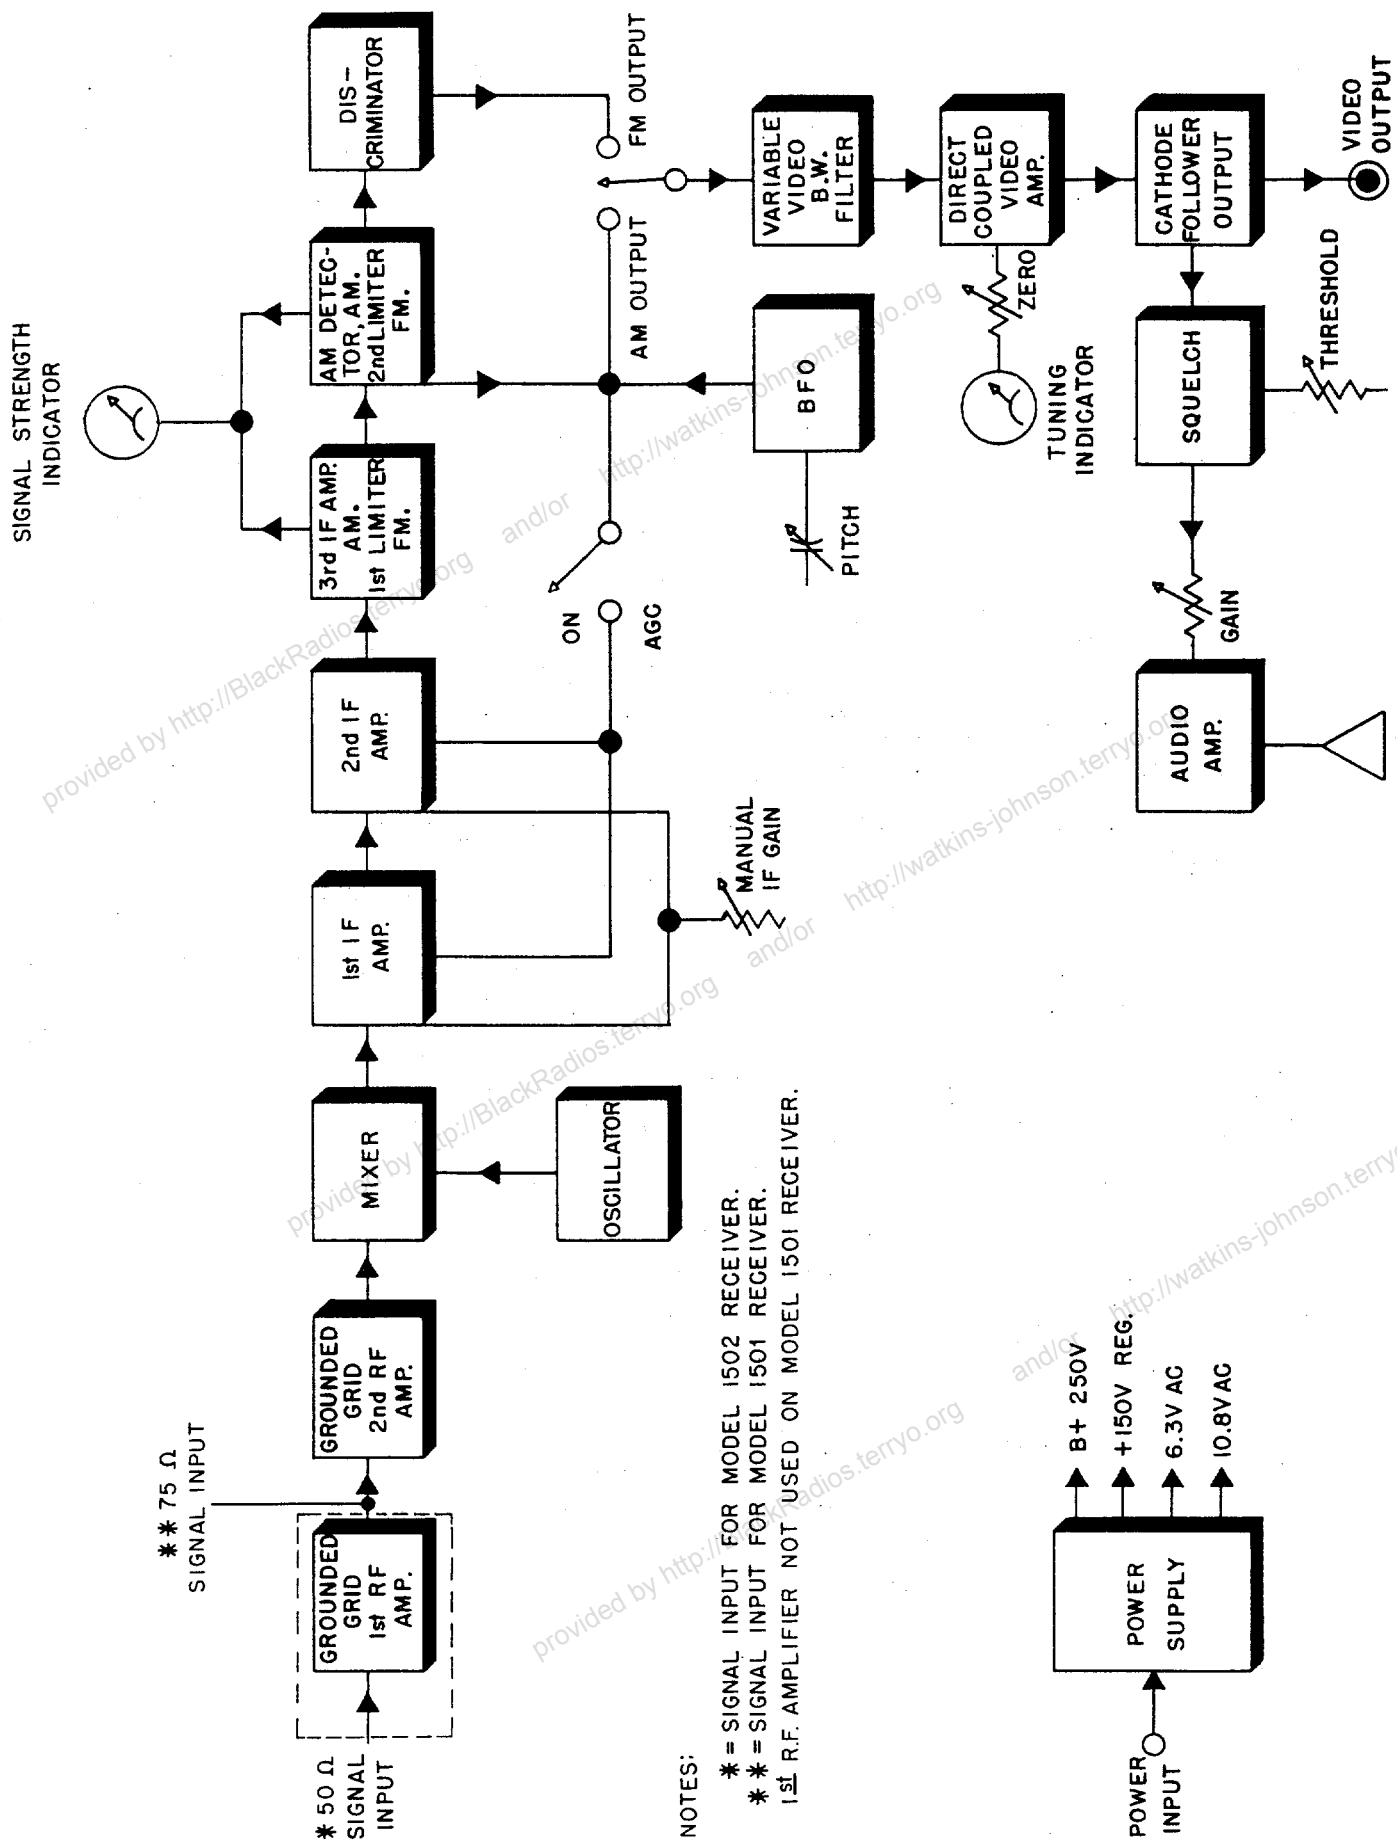

Fig. 2-1. Block Diagram, Models 1501 and 1502 Receivers
a. A block diagram of the Models 1501 and 1502 receivers is shown in Figure 2-1. The circuit, with the function switch in the AM or FM position, is a single superheterodyne with an IF of 21.4 mc.